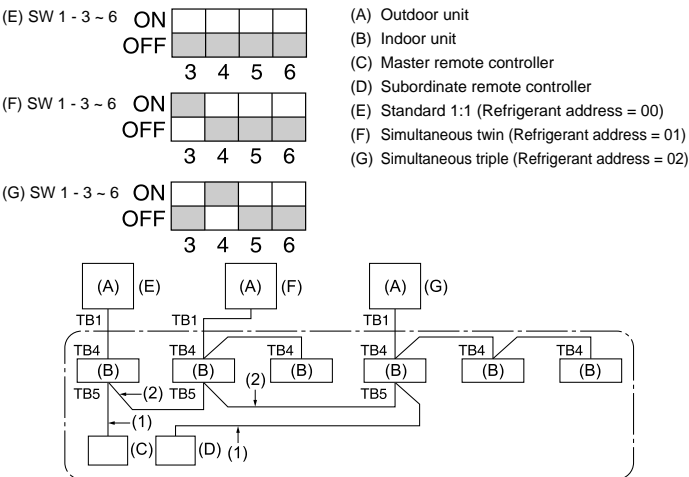

Fig. 10-1
- (1) Supply power (circuit breaker).
- (2) After the gas stop valve is closed, set the SWP switch on the control board of the outdoor unit to ON. The compressor (outdoor unit) and ventilators (indoor and outdoor units) start operating and refrigerant collecting operation begins. LED1 and LED2 on the control board of the outdoor unit are lit.
- (3) Because the unit automatically stops in about two to three minutes after the refrigerant collecting operation (LED1 and LED2 are lit), be sure to quickly close the gas stop valve. When LED1 and LED2 are lit and the outdoor unit is stopped, open the liquid stop valve completely, and then repeat step (2) after three minutes have passed.
- (4) Turn off the power supply (circuit breaker).
10.System control (Fig. 10-1)